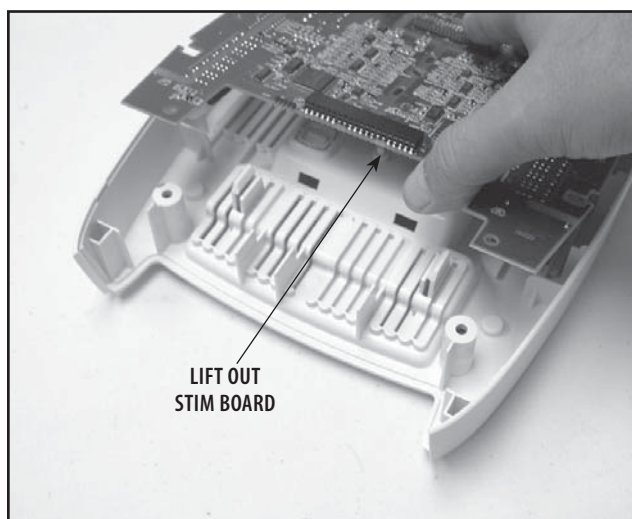

FIGURE 6.48A
4. Lift Channel 3/4 Stim Board from Module Housing. See Figure 6.48A.